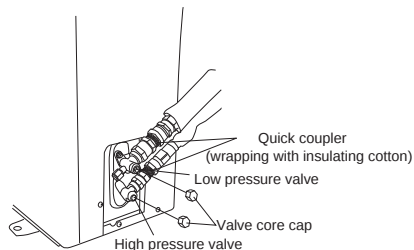

Fig.8
4.Turn on the high and low pressure valve cores with an socket wrench,then tighten the two valve core caps of the outdoor unit (Fig.8).